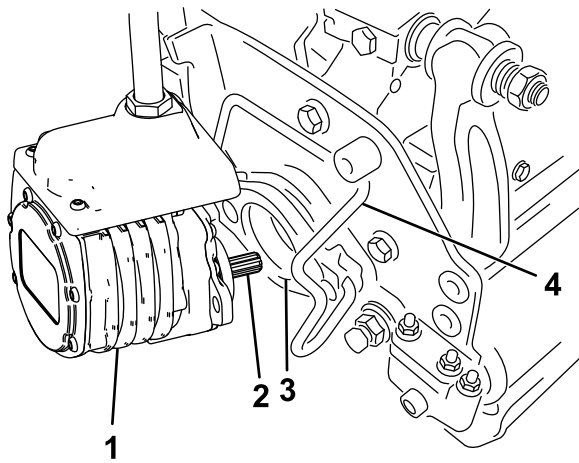

Figure 62
6. Coat the spline shaft of the cutting unit motor with clean grease (Figure 62).
7. Insert the motor into the left side of the cutting unit (as viewed from the operator's position) and pull the motor retaining bar on the cutting unit toward the motor until you hear a click from both sides of the motor (Figure 62).